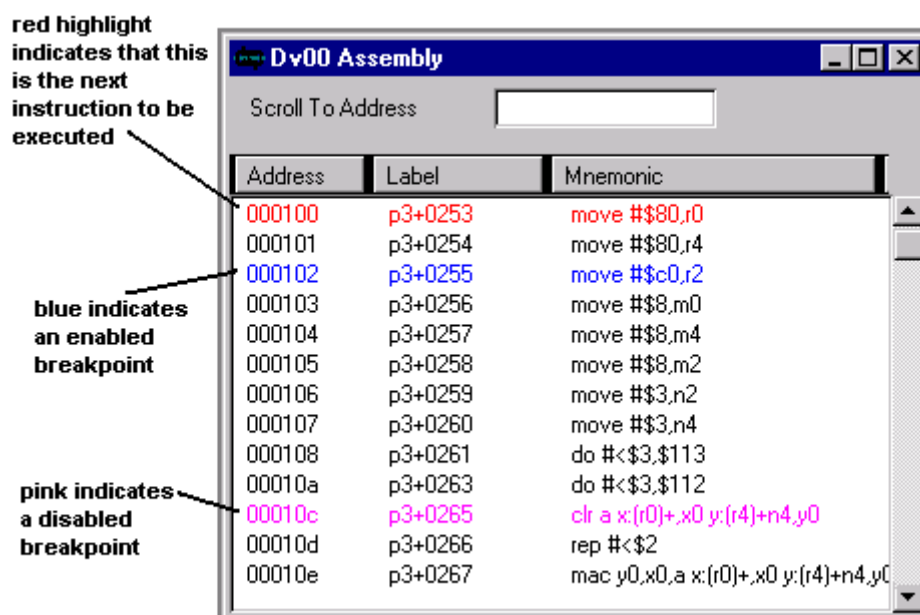

Figure 12-5. Assembly Window
1. From the **Windows** menu, choose **Assembly**. The Assembly window appears as in Figure 12-5.